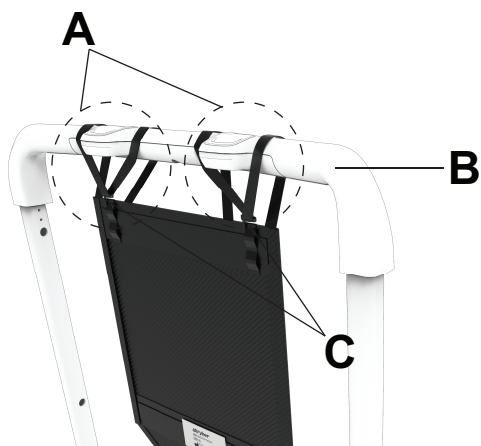

Figure 31 – Attach the straps to the grab bar
2. Wrap the left head support strap (A) around the left side of the grab bar (B). The strap should frame both sides of the left GO button. Clip the hook (C) to the loop on the head support to secure the strap around the grab bar (Figure 31).